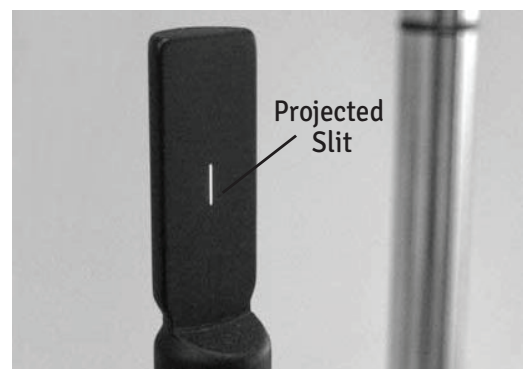

Figure-12 Focus on Slit
3. Position the light onto the flat surface of the focusing rod and adjust the pupillary distance and focus of the eyepieces to suit the needs of the operator. Refer to figure-12.